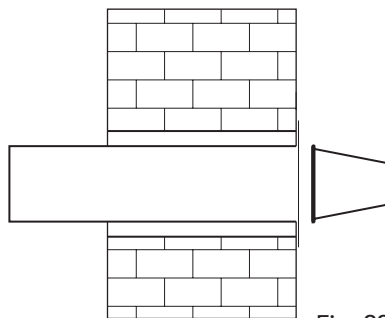

Fig. 22b
### 3.12 Installing a room thermostat (72) (fig. 22b)